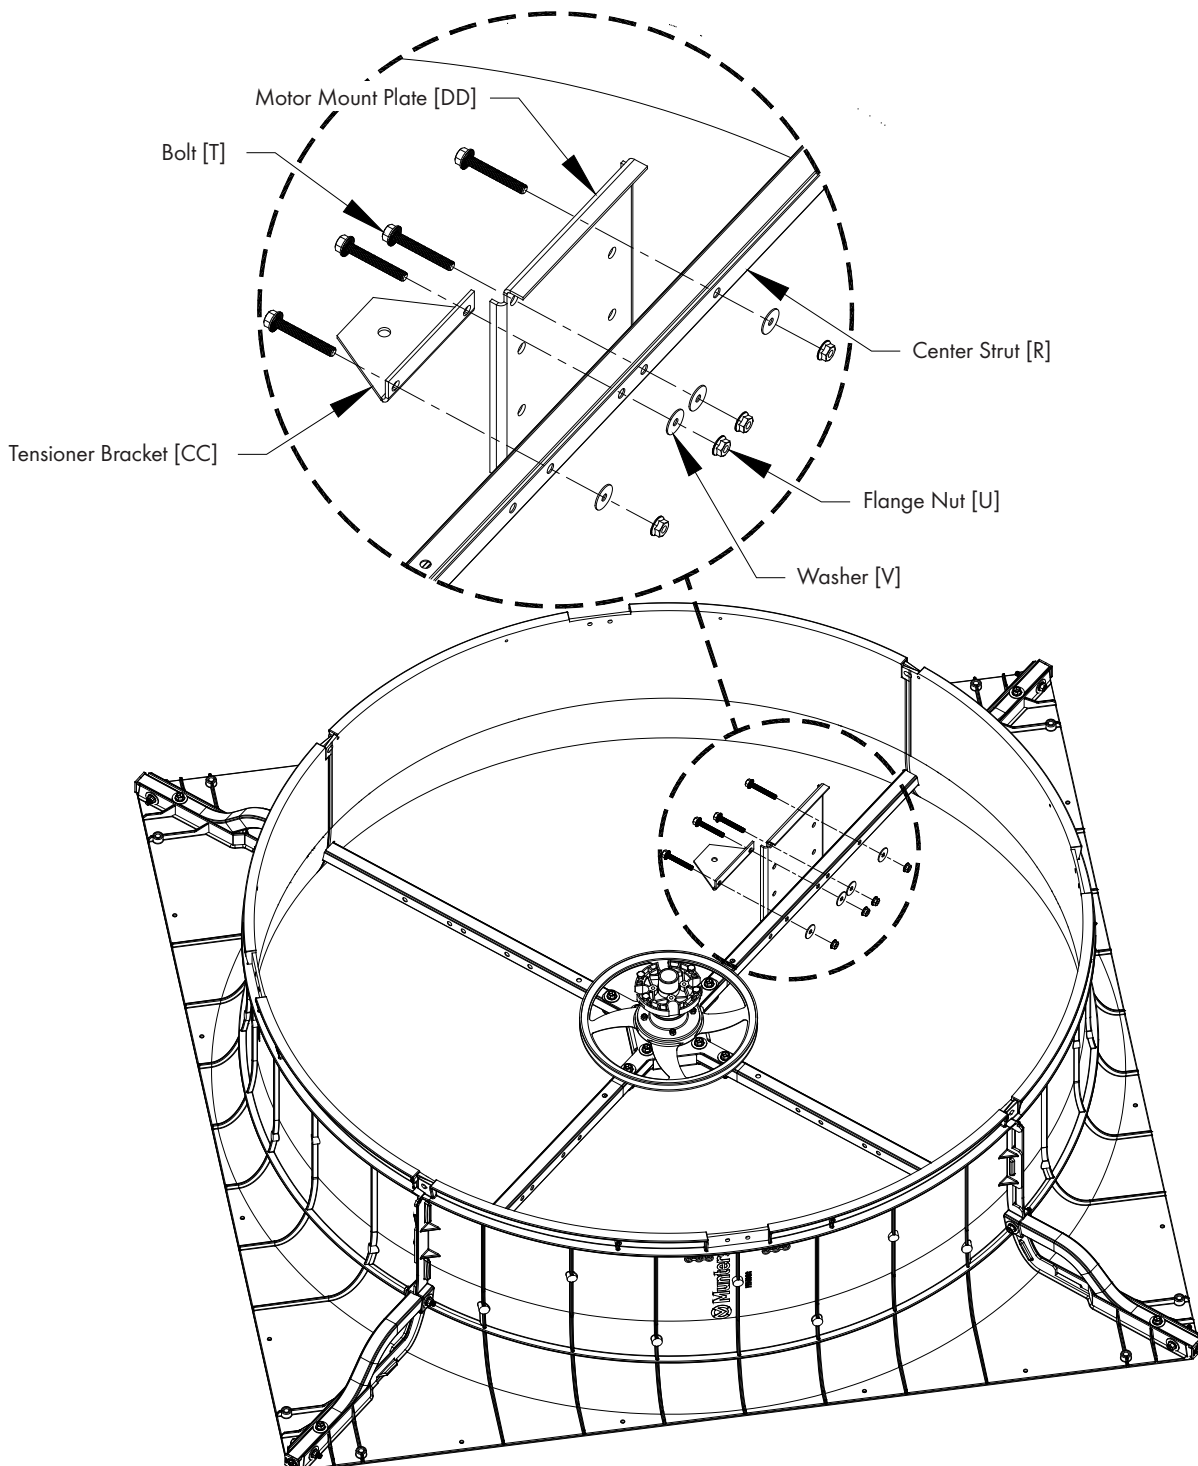

Figure 8
With the circular Orifice of the fan pointing up attach the Motor Mount Plate [DD] to the (2) outer most holes of one of the struts with the lip of the Plate resting on top of the strut and the Plate protruding down away from the circular Orifice using (2) Bolt [T], Washer [V] and Flange Nut [U]. See Figure 8. Attach Tensioner Bracket [CC] to the next (2) holes in strut using (2) Bolt [T], Washer [V] and Flange Nut [U]. See Figure 8.